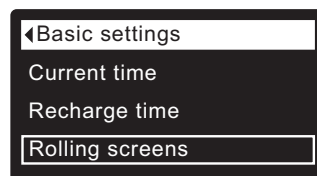

FIG. 46
3. Press the SELECT (O) button to display the Basic settings menu (See Figure 46).
7. To un-select a screen, make sure its name is highlighted in a box. Then press the SELECT (O) button. The black square will disappear. Pressing SELECT (O) again makes the black square reappear and re-selects the highlighted item. At least one screen must be selected/highlighted.
8. When selections are complete, exit this menu by pressing the LEFT (◀) button. The display will go back to the Basic settings menu (Figure 46).